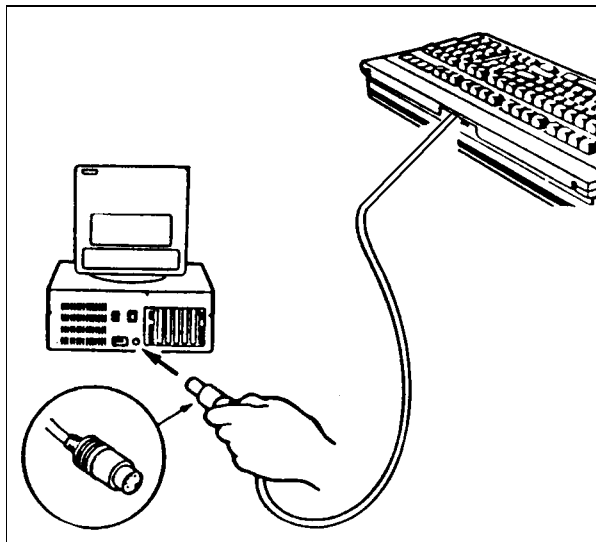

Figure 7-12. Keyboard Cable Connection
2. Unplug the keyboard cable from the rear of the computer (Figure 7-12).
4. Connect the keyboard cable to the computer (Figure 7-12).